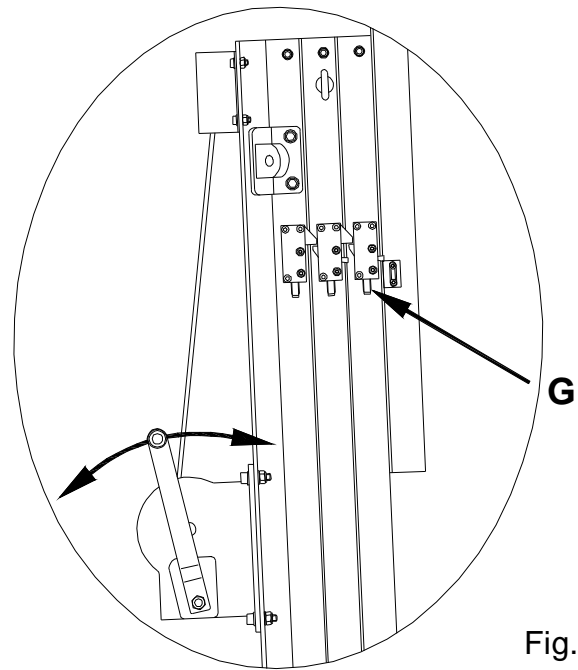

Fig. 7
To bring the lift down you need to first turn the winch handle slightly clockwise and at the same time push the red ALS lock in (G). (Fig. 7)